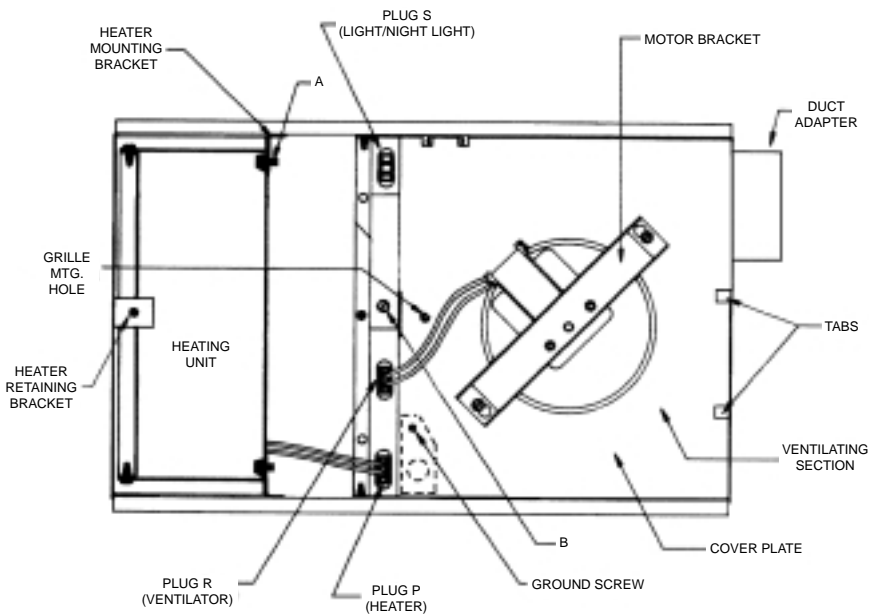

FIGURE 1 (ALL MODELS)
3. Before removing main unit from carton, loosen the two heater retaining screws "A" (Fig. 1). Pull plug "P" from its receptacle. Squeeze the heater frame to release the heater retaining bracket and carefully lift out the heating unit until the screws disengage the keyholes. Place in a safe location.
12. Remove lens from grille assembly by squeezing both sides. Lift grille assembly to unit and push plug into light receptacle "S". Engage the long mounting screw into formed hole in cover plate. See fig. 1. Tighten until grille is snug against ceiling.
**CAUTION - Grille Assembly is intended for installation in one direction only. Plug "S" & lamp socket must be installed on same side of fan as Light/Night Light outlet shown in Figure 1. Improper orientation of the Grille Assembly will result in overheating of the grille and a possible safety hazard.**